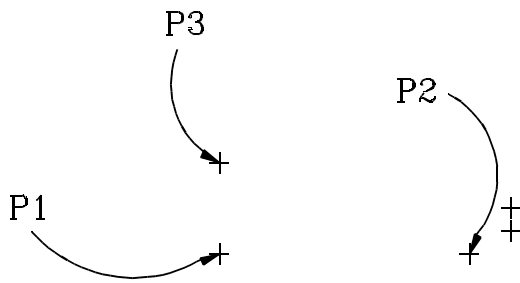

Figure 4:
8. In the top view, click on points P1, P2, and P3 (the blue points), as shown in Figure 4.